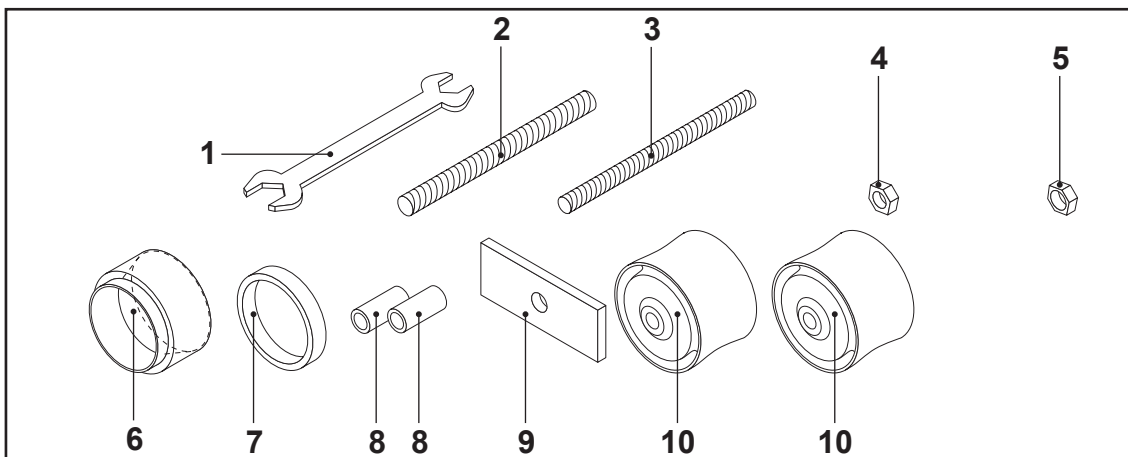

FIG. 62
- 32 mm wrench (FIG. 62-REF. 1)
- M20 (FIG. 62-REF. 2) and M16 (FIG. 62-REF. 3) threaded rods
- M20 (FIG. 62-REF. 4) and M16 (FIG. 62-REF. 5) nuts
- piston guide ring (FIG. 62-REF. 6)
- guide spacer (FIG. 62-REF. 7)
- two rod spacers (FIG. 62-REF. 8)
- flange for removing piston (FIG. 62-REF. 9)
- two pistons (FIG. 62-REF. 10)